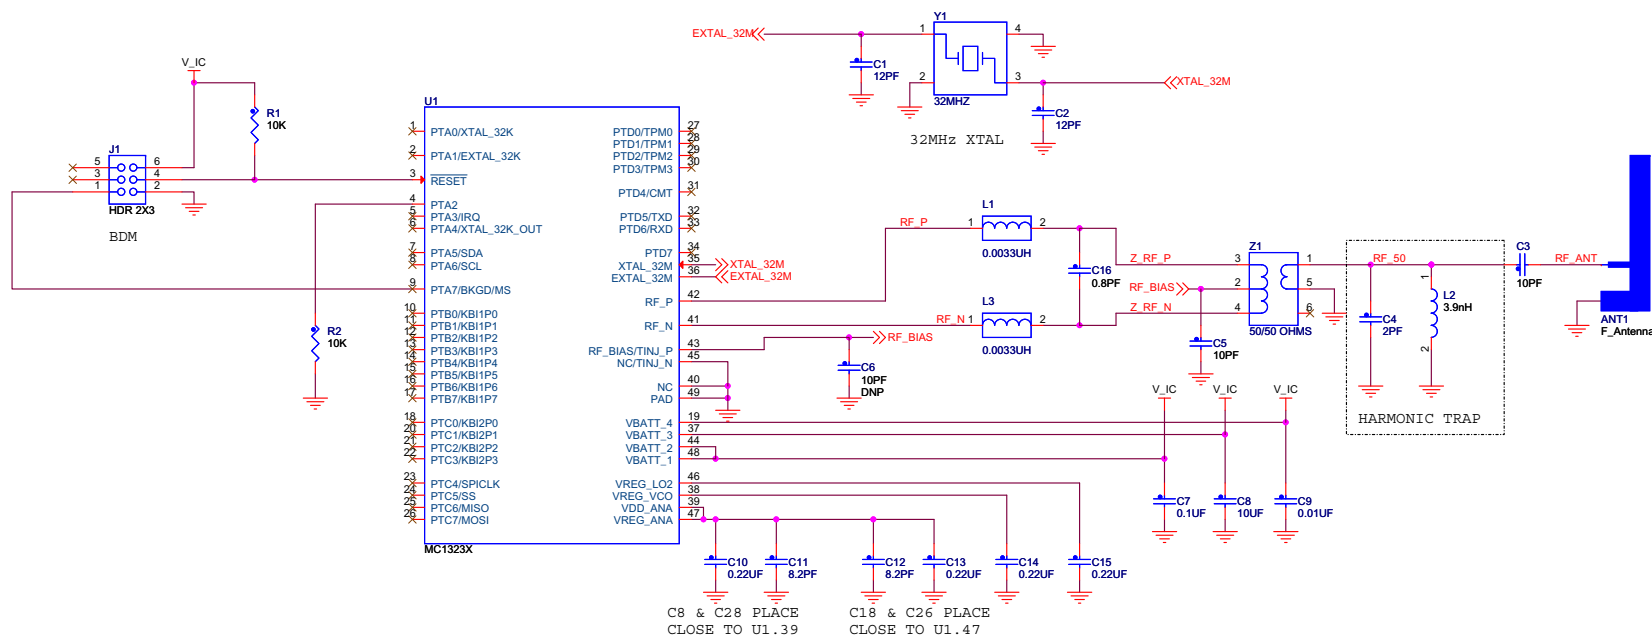
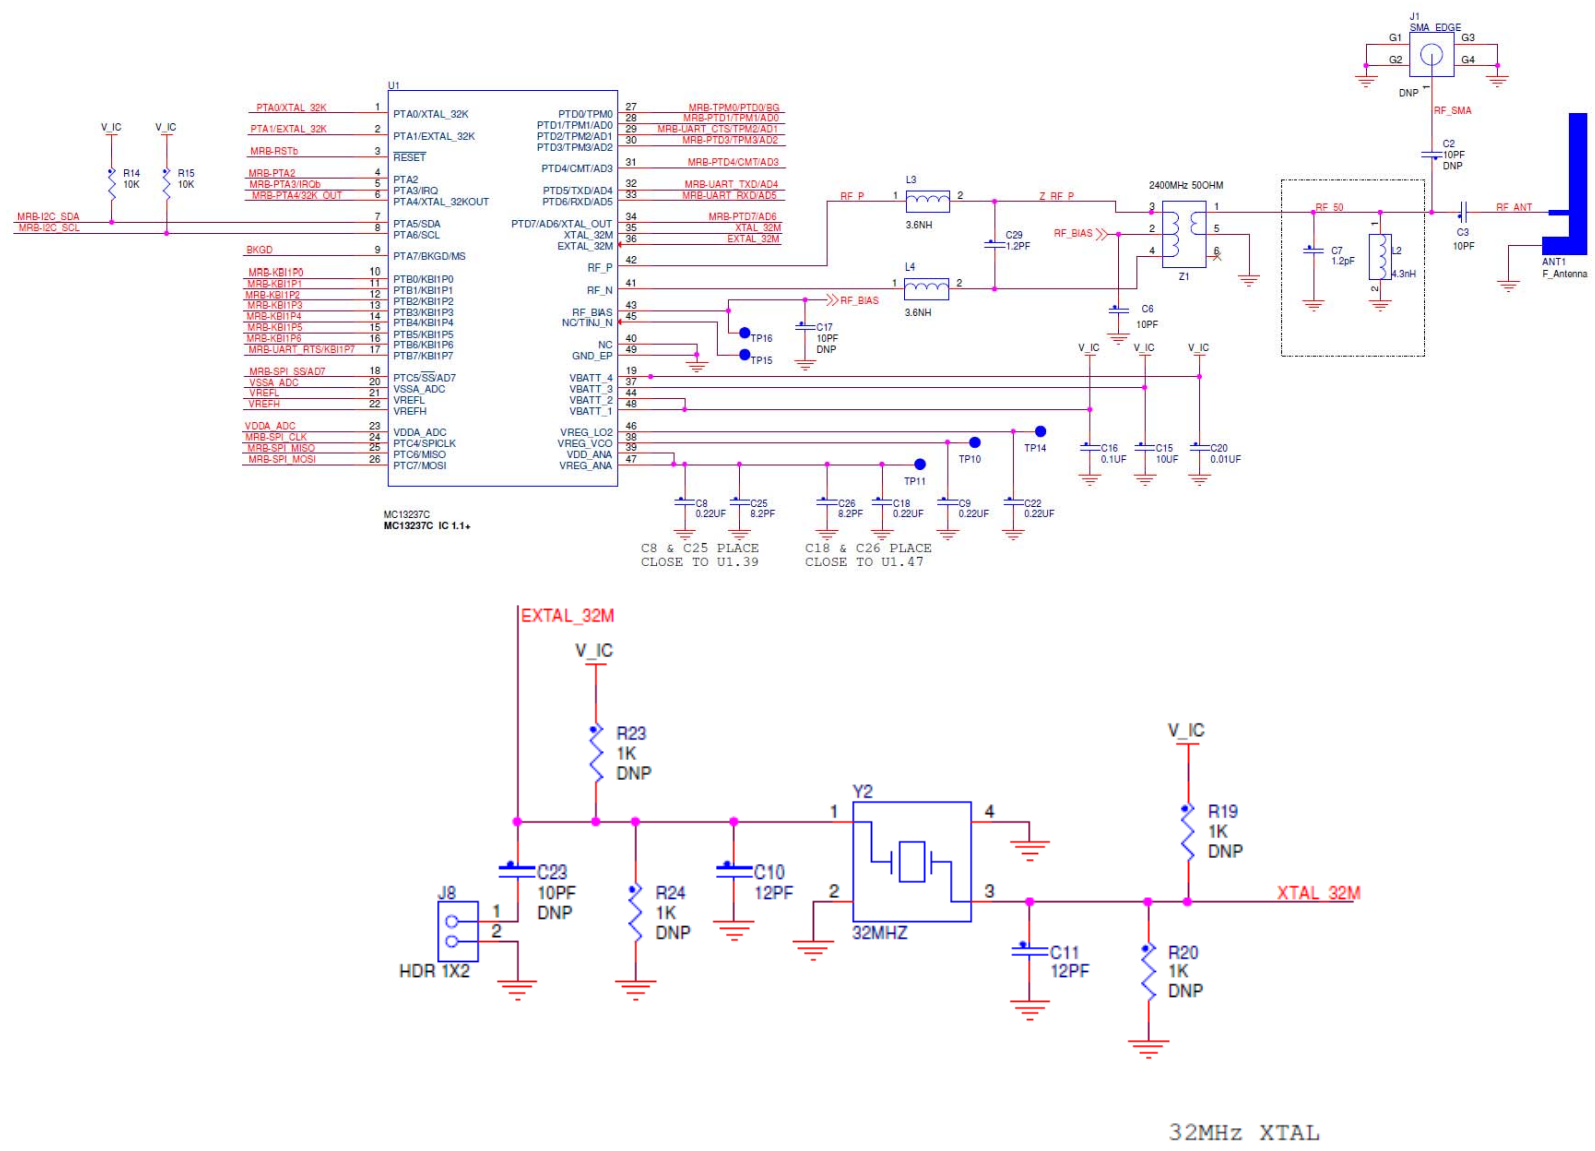

Figure 11. MC13234 Basic Applications Circuit (Note: Refer to the reference manual for the latest MRB schematic)
Figure 12. MC13237 Basic Applications Circuit (Note: Refer to the reference manual for the latest MRB schematic)
Figure 11 and Figure 12 illustrate a basic applications circuit based on the MC13234 and MC13237 MRB development boards. Features of the circuit include:
- RF circuitry at 2.4 GHz is very dependent on board layout and component usage. Figure 11 shows a typical RF configuration, however component value and use can vary based on customer application.